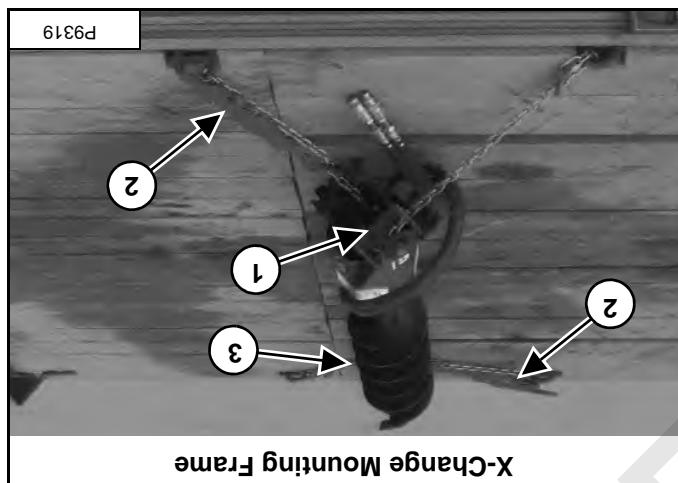

Figure 187
Wrap a chain around the auger bit (item 3) and use a chain binder (item 2) [Figure 187] to secure the direct drive auger.
When on the transport vehicle, connect chains through the direct drive auger pivot pin (item 1) and use a chain binder (item 2) [Figure 187] to secure the frame.